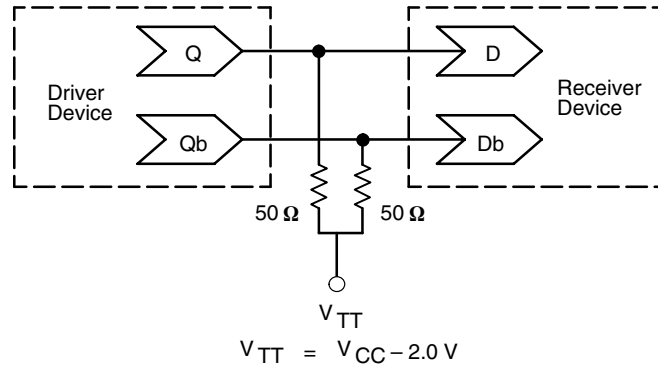

Figure 4. Typical Termination for Output Driver and Device Evaluation
4. Refer to figure 4 and note that the input is at 850mV ECL levels with the input threshold range between the 20% and 80% points. The delay is measured from the crosspoint of the input signal and the threshold value to the crosspoint of the Q and \overline{Q} output signals.